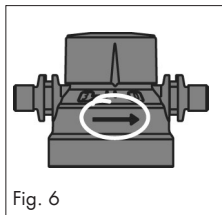

Fig. 6
2. Pay attention to the correct direction of the flow direction (see Fig. 6).